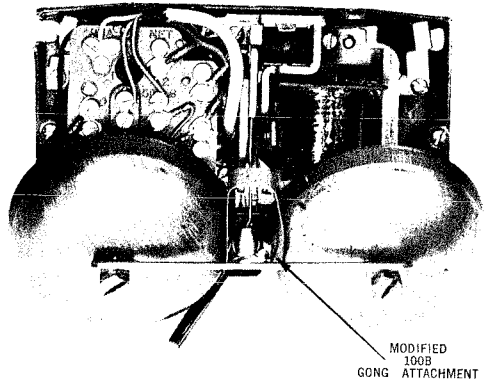

Fig. 6 — 100B Gong Attachment — Installation
4.12 The attachment should be fitted on the gong as shown in Fig. 6, making sure that no interference exists between the attachment and the control lever mechanism.